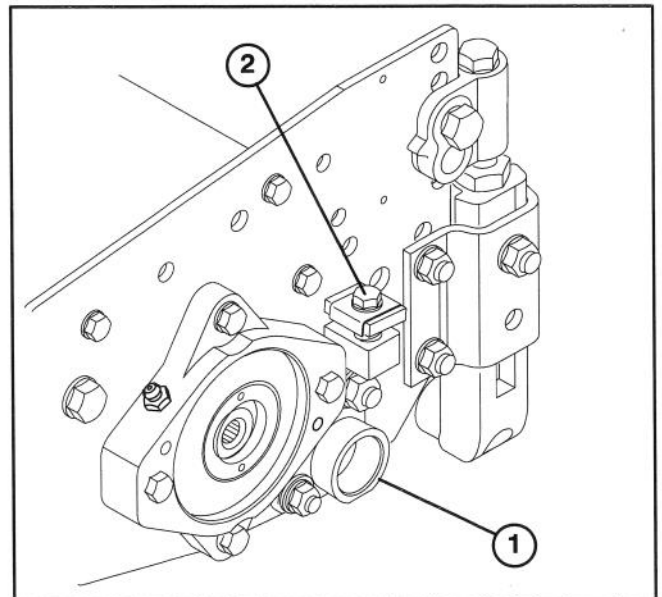

Figure 3
5. Slightly loosen (crack) (2) locknuts securing pivot hub to left sideplate (Fig. 3).
6. Rotate pivot hub adjusting screw until a slightly larger gap exists between reel blades and bed knife on left end than on right end (Fig. 3).